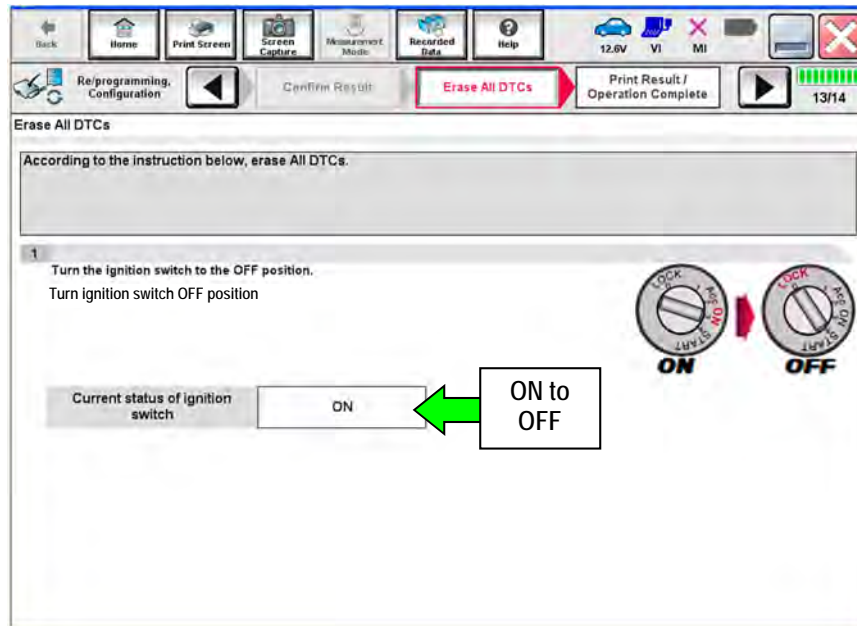

Figure 21
- The screen in Figure 21 will read OFF after pressing the power switch once.